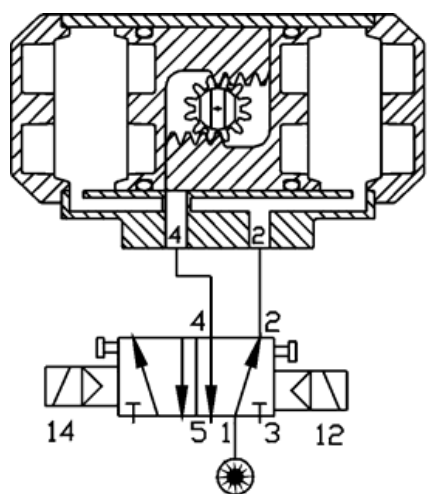

Figure 5
- **4 way (4/2)** for Double Acting actuators: air goes from the supply Port 1 to the Port 2, filling up the cavity between the pistons and the end caps, closing the actuator (see fig. 5);